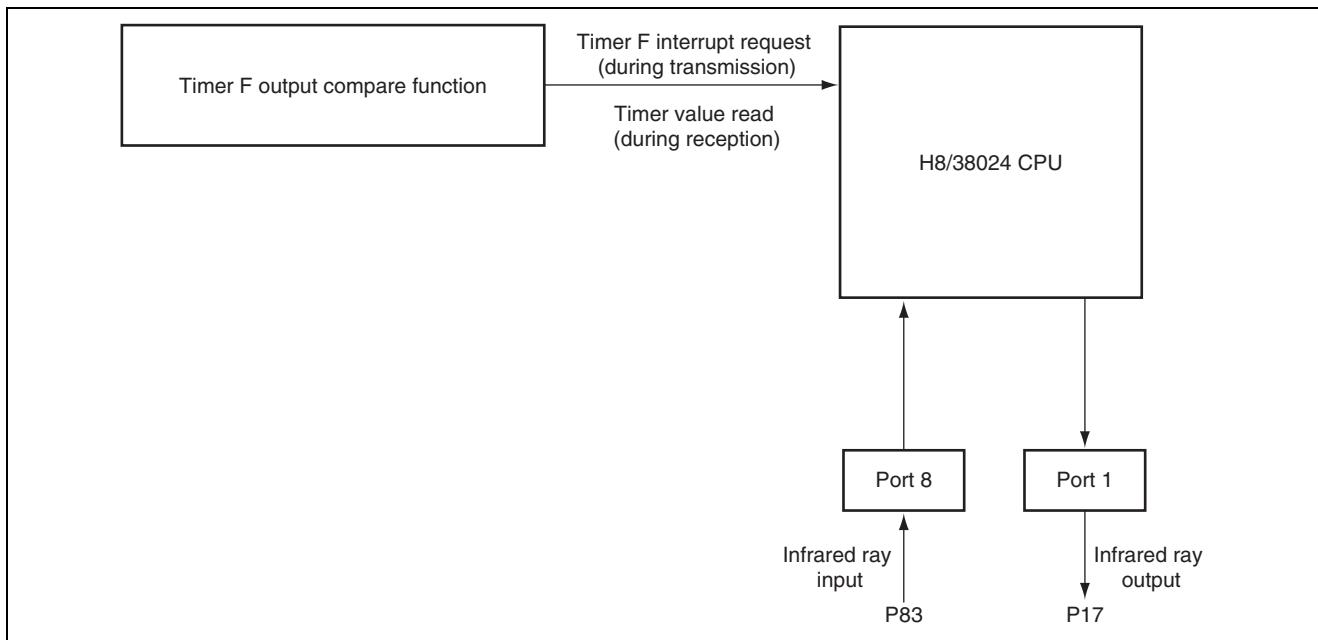

Figure 2.1 Block Diagram of Functions
- Figure 2.1 shows a block diagram of functions of the H8/38024 in this sample task; table 2.1 shows function allocations.